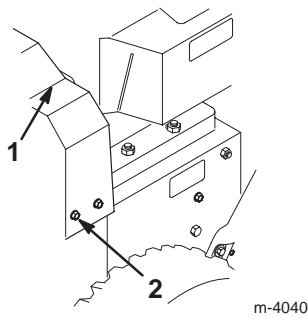

Figure 30
- Remove the three bolts that hold the belt cover in place and set the cover aside (Fig. 30).
3. Remove the three bolts that hold the belt cover in place and set the cover aside (Fig. 30).